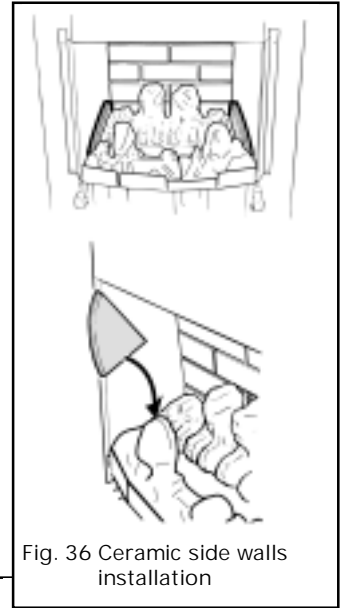

Fig. 36 Ceramic side walls installation
**10.4** The ceramic side walls are marked at the rear bottom corners "L" (Left side) & "R" (Right side). Place the side walls against the sides of the fire box and in the recesses at the sides of the base coals. The markings "L" & "R" should be at the back bottom corners and facing to the centre of the back of the firebox (See figure 36).